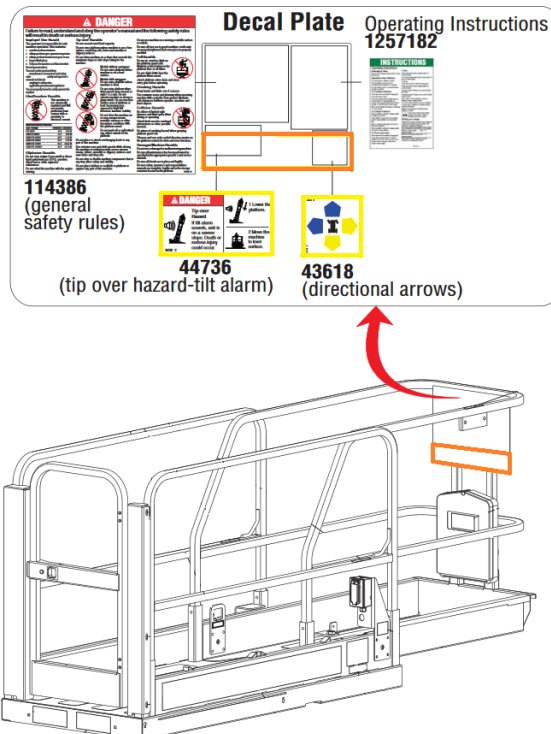

Figure 1: Tool Tray Layout
- 1) The Piranha Lox Tool Tray shall only be mounted in the center of the front of the extension deck at a maximum height of 32 inches from the extension deck floor (to the top of the tray), on the extension deck decal plate, inside the perimeter of the platform railing (approximate location highlighted in orange in Figure 1). The Piranha Lox attachment should only be drilled or riveted onto the platform decal plate, not the platform railing.
- 2) The Tip Over Hazard-Tilt Alarm decal (P/N 44736) and Directional Arrows decal (P/N 43618) decal (highlighted in yellow in Figure 1) must be removed from the decal plate and installed on the front of the Piranha Lox Tool Tray. All decals on the decal plate must be visible to occupants inside of the platform.